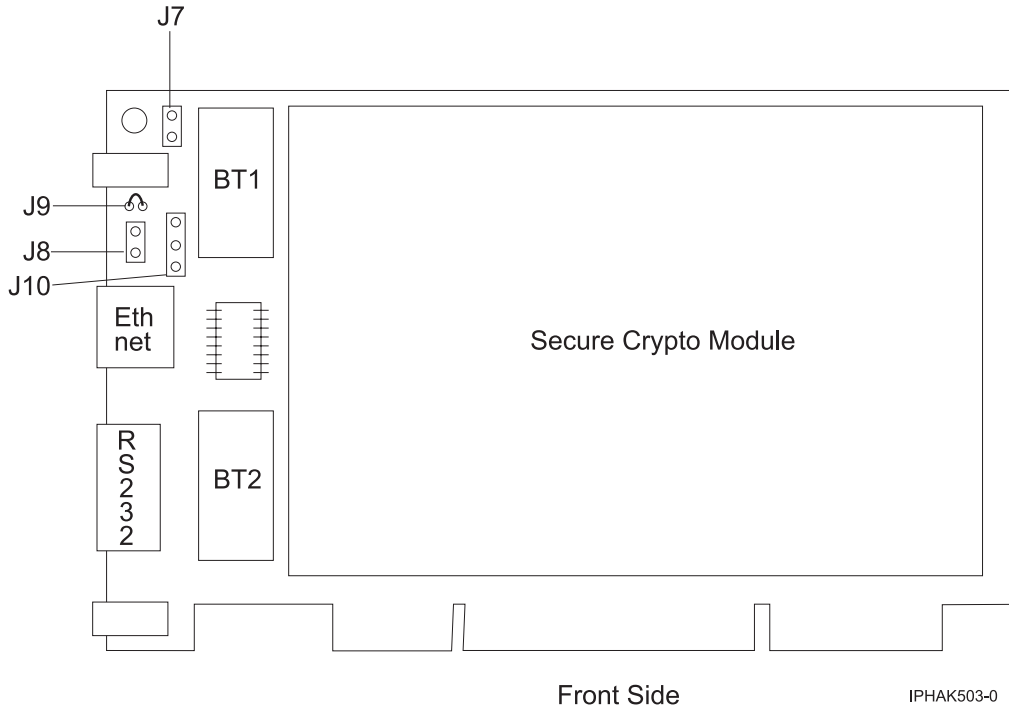

Figure 9. Front side of the adapter
6. Insert one of the new batteries into the battery tray provided with the kit. Align the + on the battery with the + on the battery tray (the end with the red wire). Connect the tray wires to the J10 connector located near the RS-232 serial port, as shown in Figure 9 on page 48. The connector is polarized to ensure a correct connection.